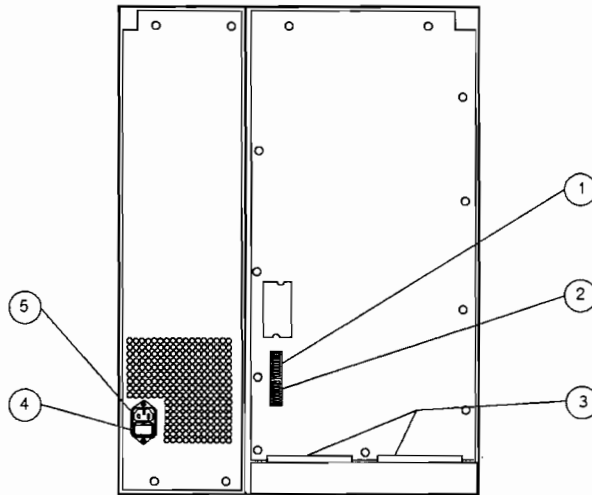

Figure 3-1. Optical Disk Library Rear Panel
- a. Connect the SCSI cable to a SCSI socket on the rear of the Disk Library System. Press in fully. (See Figure 3-1)
(See Figure 3-1)